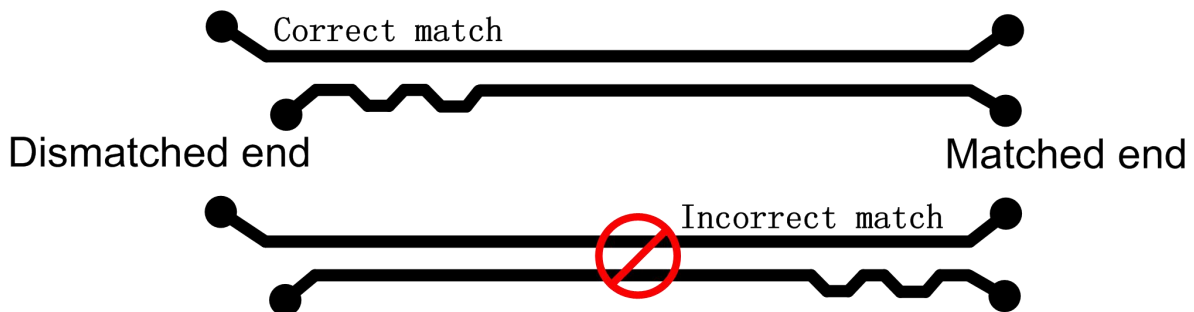

Figure 3-11 Length Match Design of PCIe Difference Pair
- The difference in length of two data lines in difference pair should be within 5mil, and the length match is required for all parts. When the length match is conducted for the differential lines, the designed position of correct match should be close to that of incorrect match, as shown in Figure 3-11. However, there is no specific requirements for the length match of transmit pair and receiving pair, that is, the length match is only required in the internal differential lines rather than between different difference pairs. The length match should be close to the signal pin and pass the small-angle bending design.